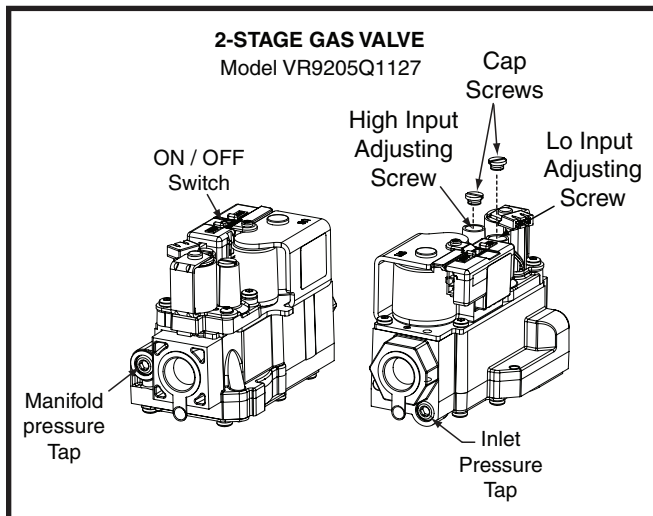

Figure 7. Regulator Capscrew & Tap Locations
4. Place the gas valve ON/OFF switch to the ON position. See Figure 7 \(page 19\).
2. Using a 3/16" Allen wrench, remove the plug from the inlet pressure tap (INLET side of gas valve). See Figure 7 (page 19).
3. Using a 3/16" Allen wrench, remove the manifold pressure tap plug located on the outlet side of the gas valve (Figure 7).
1. Remove the cap screw from the top of the gas valve regulator (Figure 7).